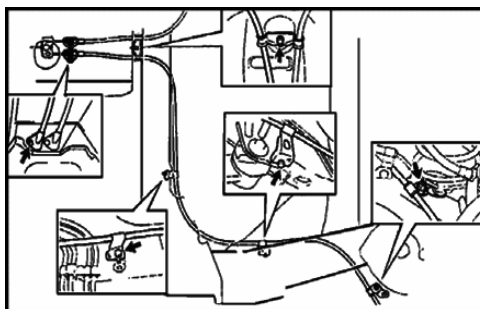

Fig. 2-78
- 1) Install components of No. 3 parking brake cable, as shown in Fig. 2-78.